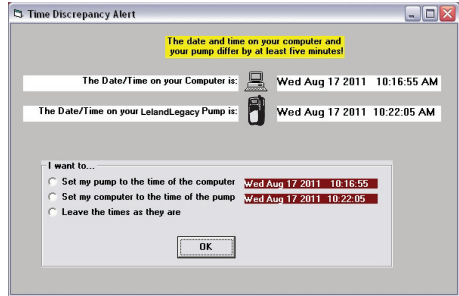

Figure 3. Time Discrepancy Alert Window
6. If the date and time settings on the PC and pump differ by a day or more than 5 minutes, respectively, a Time Discrepancy Alert window will display (Figure 3).